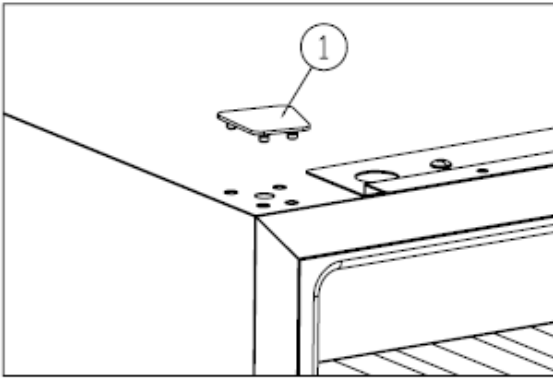

Figure 3
Remove the germinal lid (1). [Figure 3]